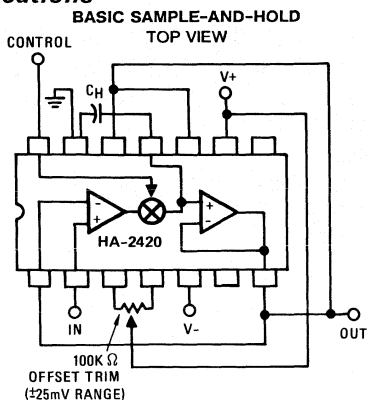

FIGURE 6.
The offset voltage of the HA-2420/2425 may be adjusted using a $100k\Omega$ trim pot, as shown in Figure 6. The recommended adjustment procedure is:
- Figure 6 shows a typical unity gain circuit, with Offset Zeroing. All of the other normal op amp feedback configurations may be used with the HA-2420/2425. The input amplifier may be used as a gated amplifier by utilizing Pin 11 as the output. This amplifier has excellent drive capabilities along with exceptionally low switch leakage.